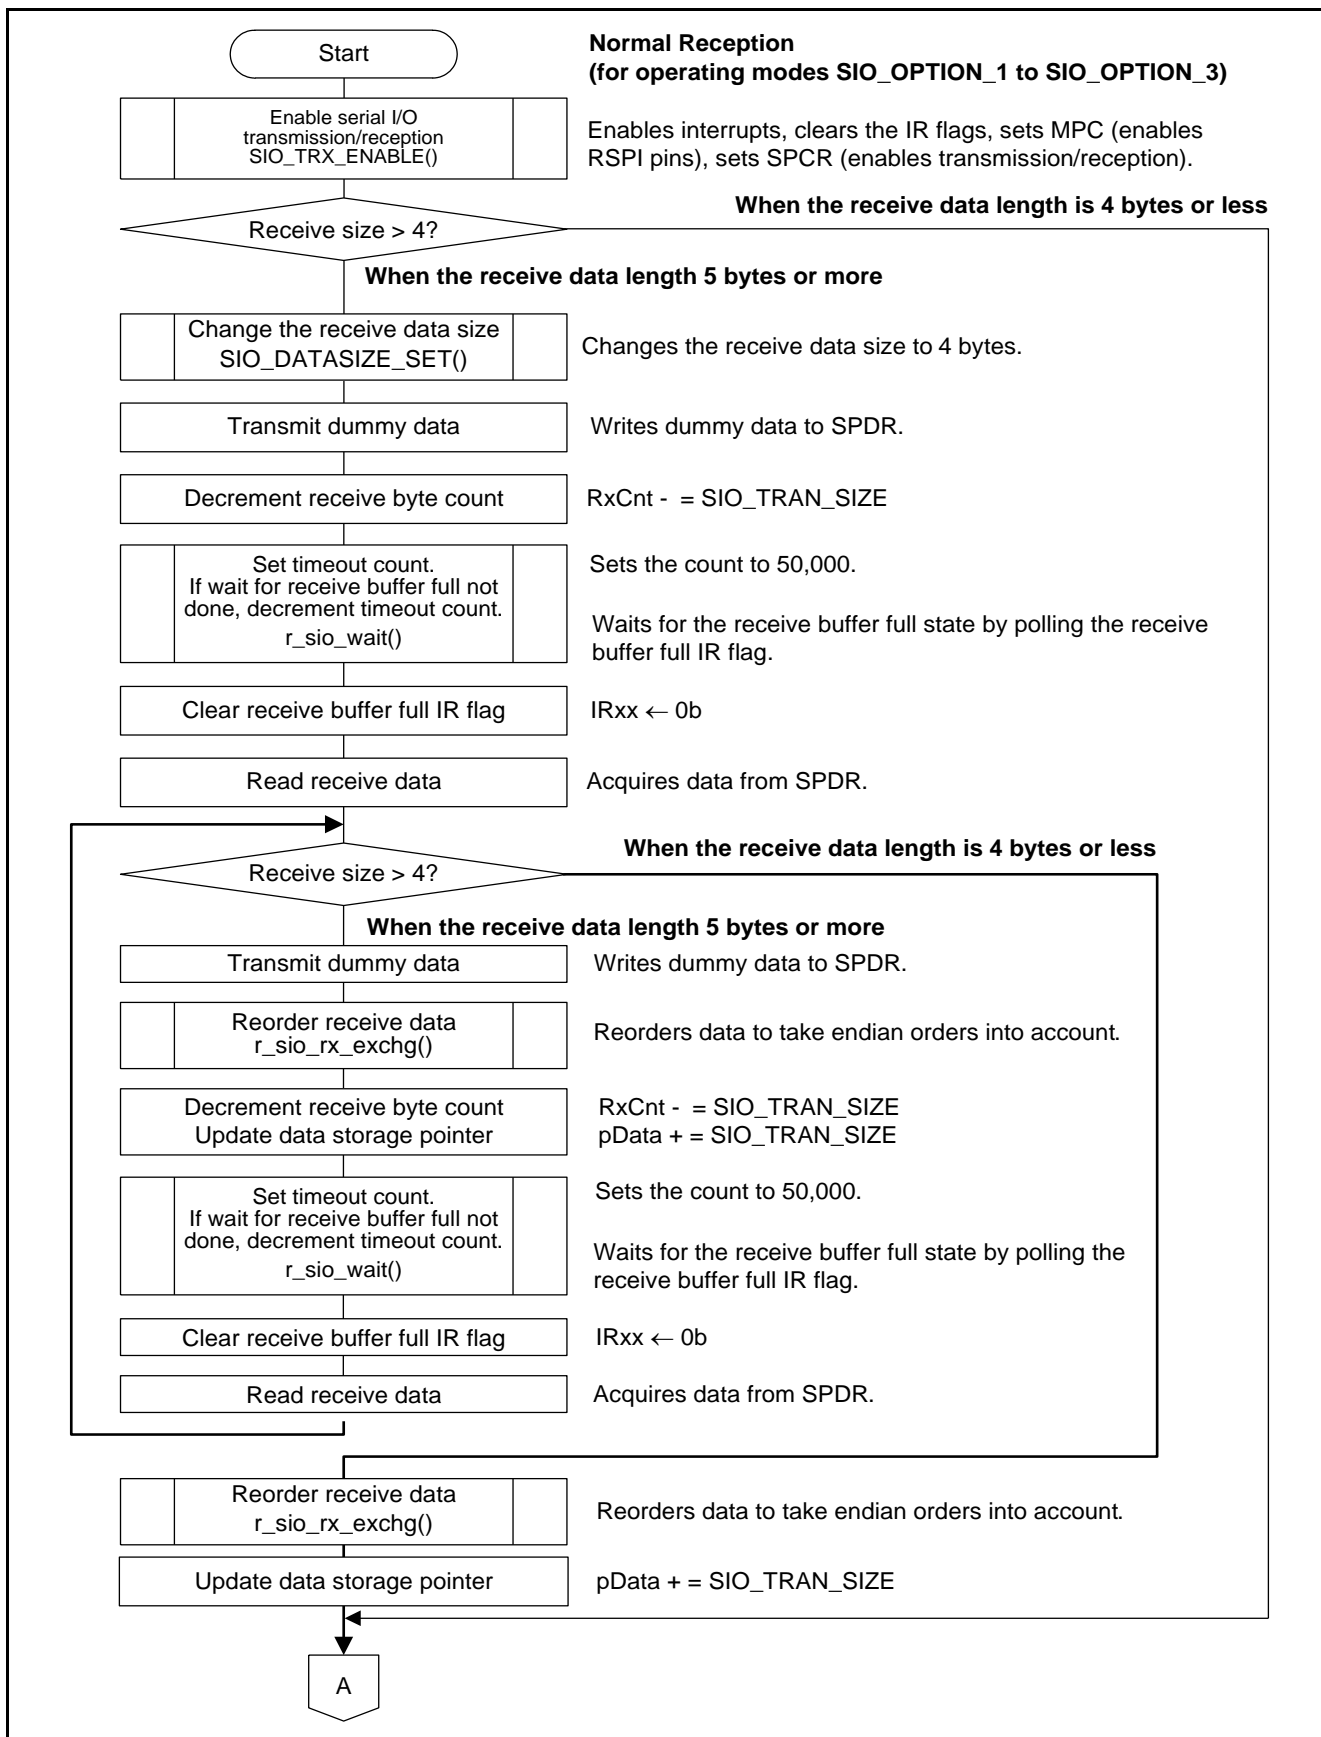
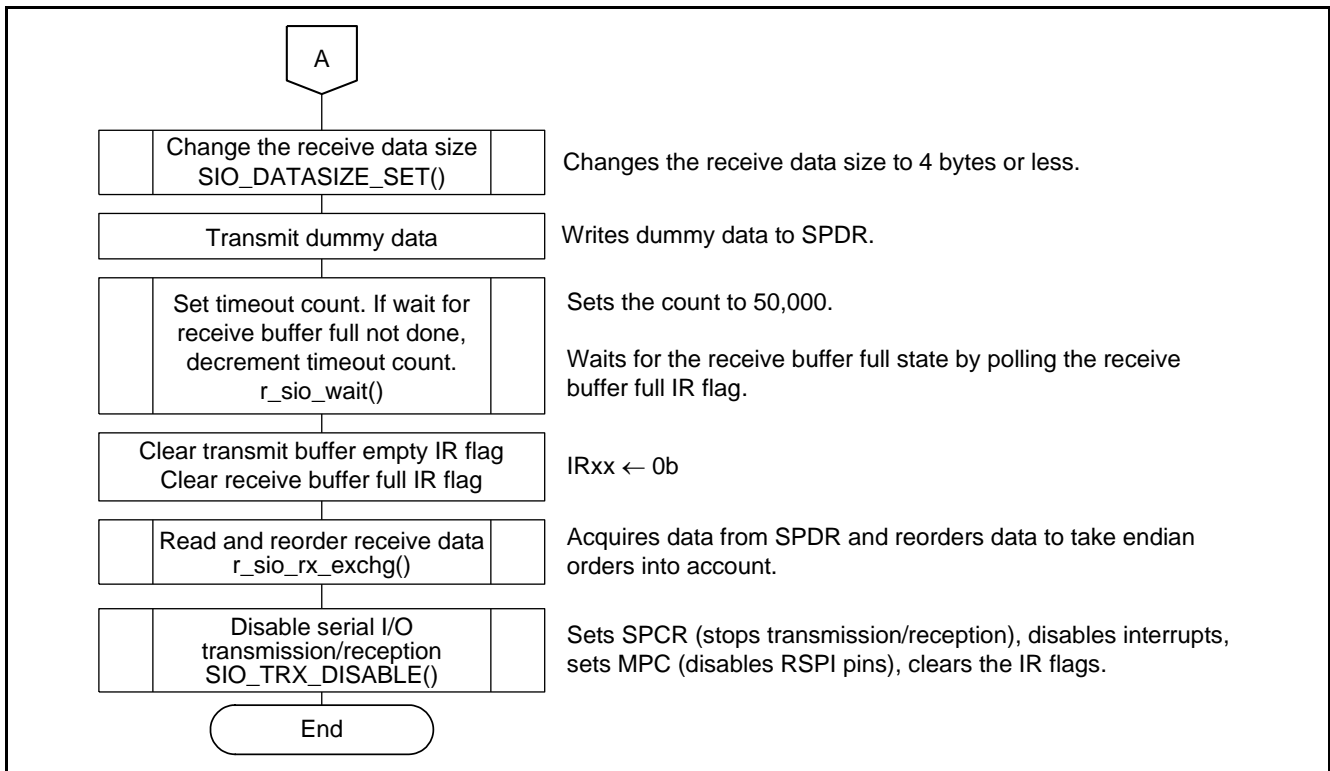
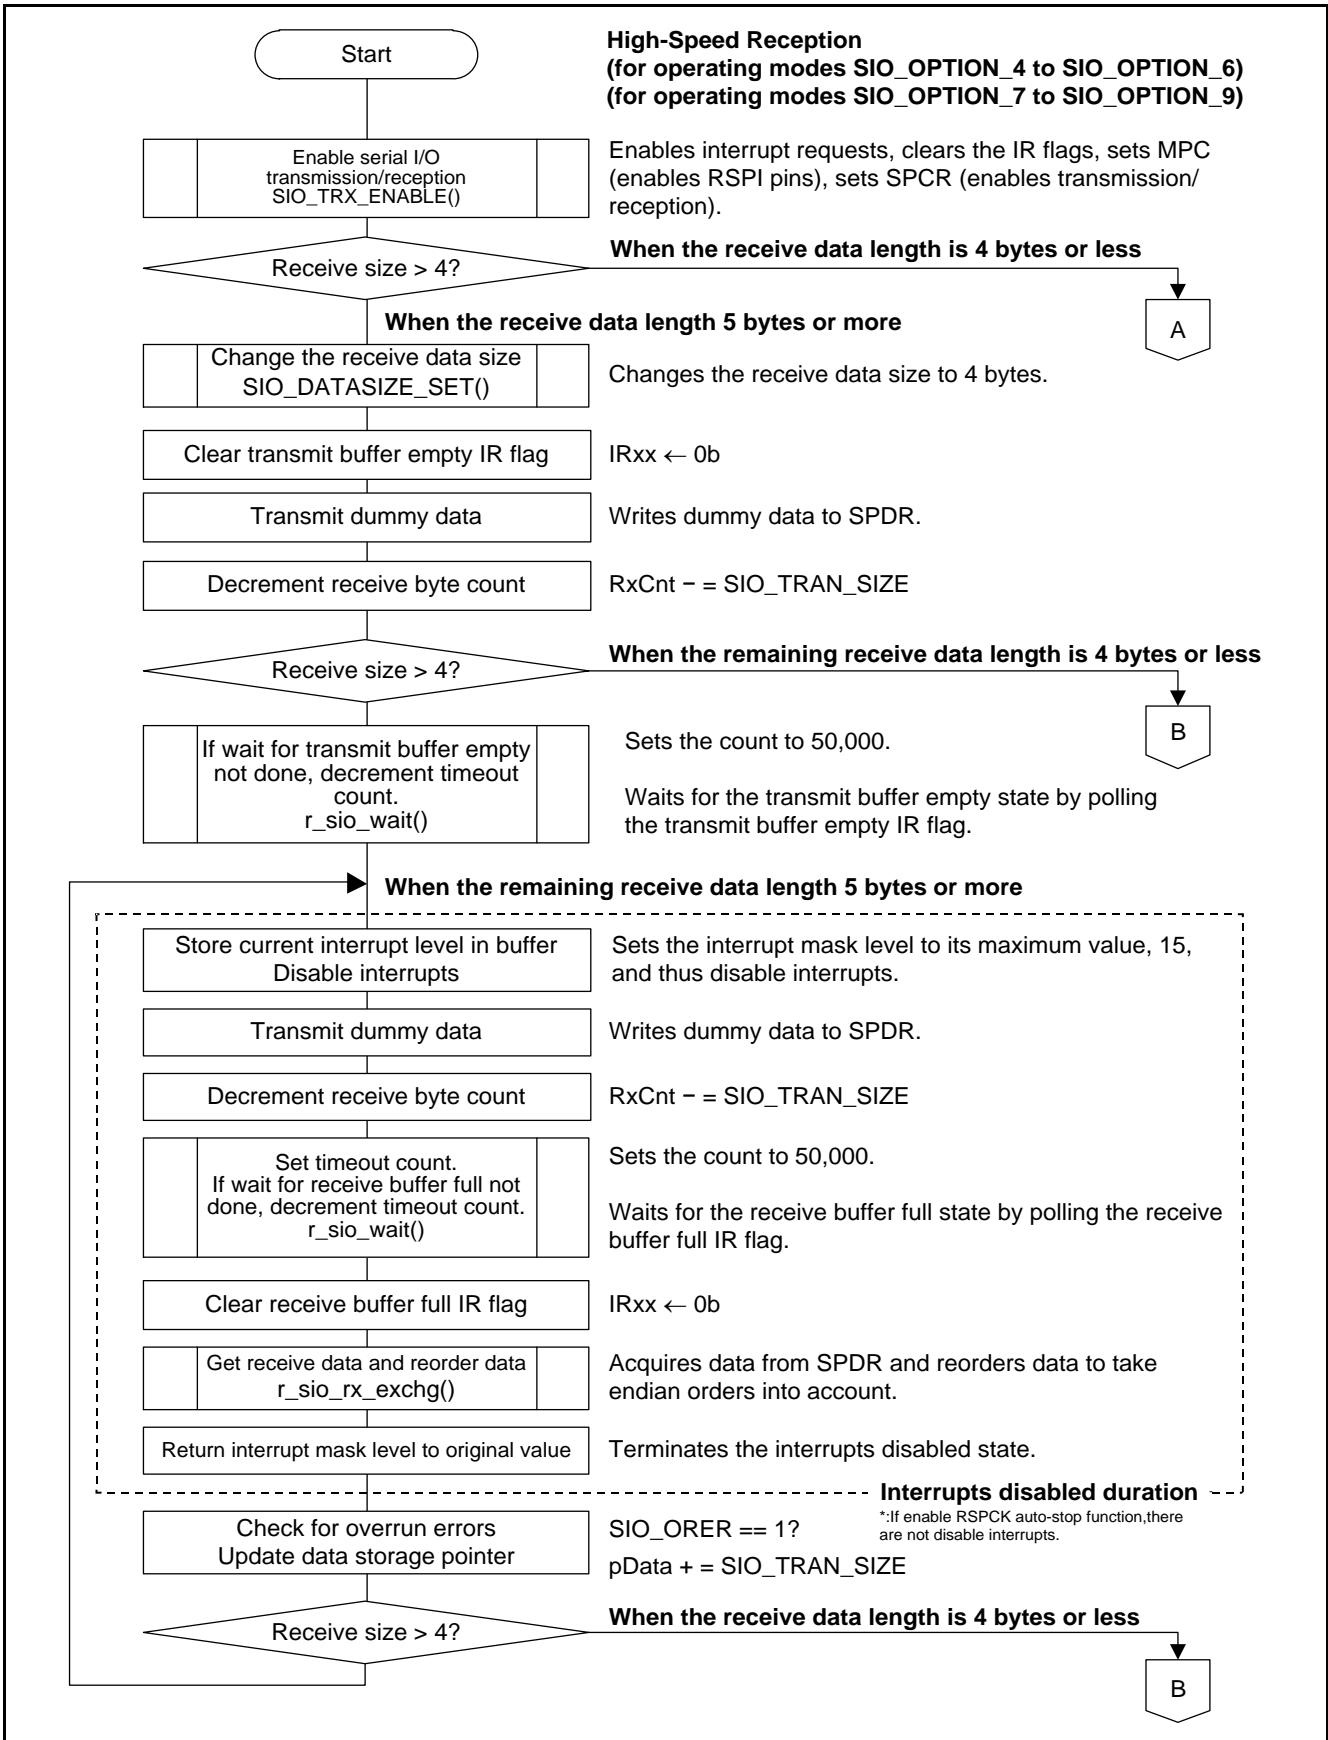
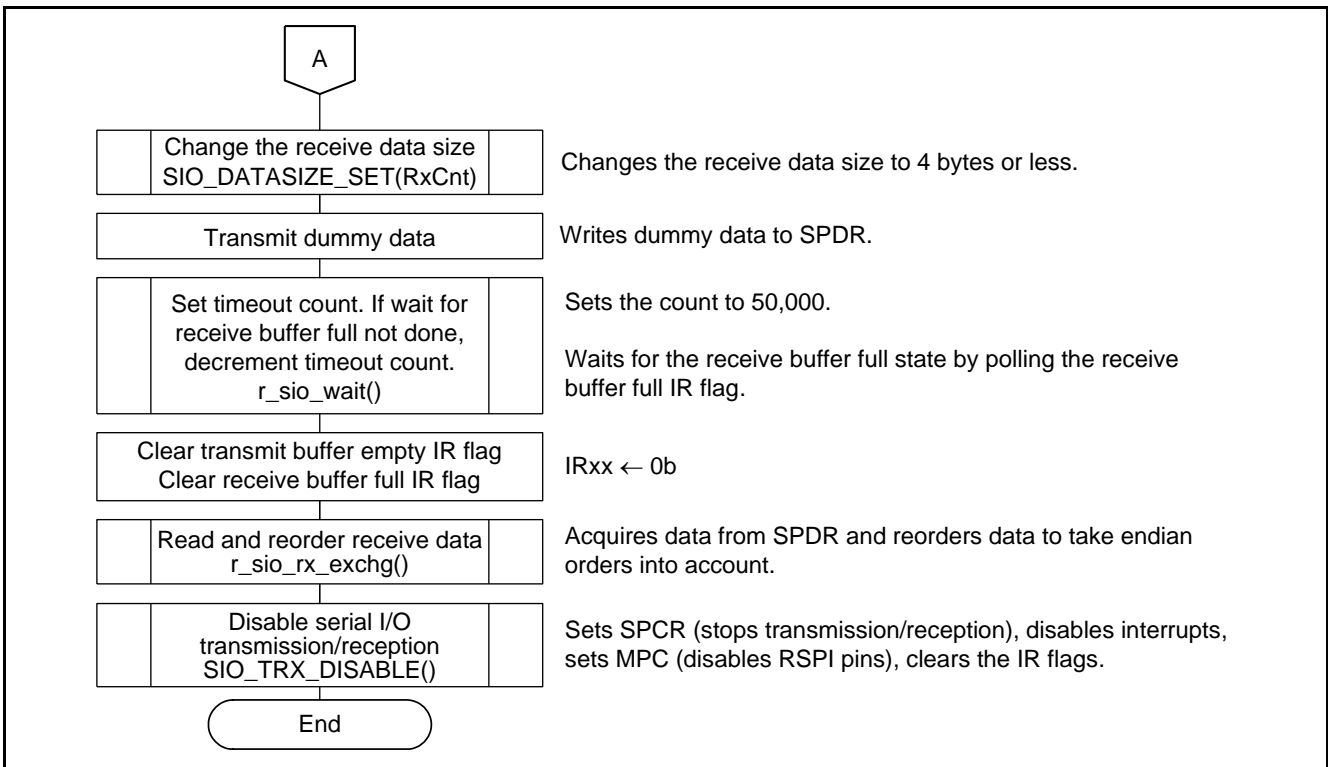

Figure 6.11 Serial I/O Data Reception Processing Outline 1 (Normal)
Figure 6.12 Serial I/O Data Reception Processing Outline 2 (Normal)
Figure 6.13 Serial I/O Data Reception Processing Outline 3 (High-Speed)
Figure 6.14 Serial I/O Data Reception Processing Outline 4 (High-Speed)
Description	<p>Receives the specified number of bytes of data and stores it in pData.</p> <p>The serial I/O enable setup processing must be performed prior to calling this function.</p> <p>The serial I/O disable setup processing must be performed if the result of this function indicates that an error occurred.</p> <p>Either normal reception or high-speed reception may be selected. For the selection method, see section 7.2.2, R_SIO_rsipi.h (1) for the definitions of the operation modes used.</p> <p>An overview of normal reception is shown in figure 6.11, Serial I/O Data Reception Processing Outline — 1 (Normal) and figure 6.12, Serial I/O Data Reception Processing Outline — 2 (Normal).</p> <p>An overview of normal reception is shown in figure 6.13, Serial I/O Data Reception Processing Outline — 3 (High-Speed) and figure 6.14, Serial I/O Data Reception Processing Outline — 4 (High-Speed).</p>